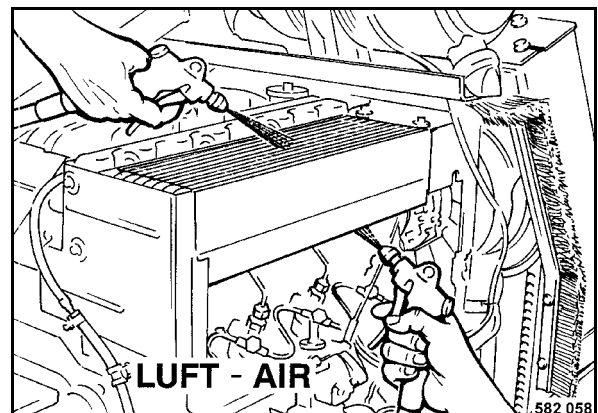

Fig. 64
- Take the cooling air duct cover off and blow the radiator (Fig. 64) out, starting from the air discharge side.